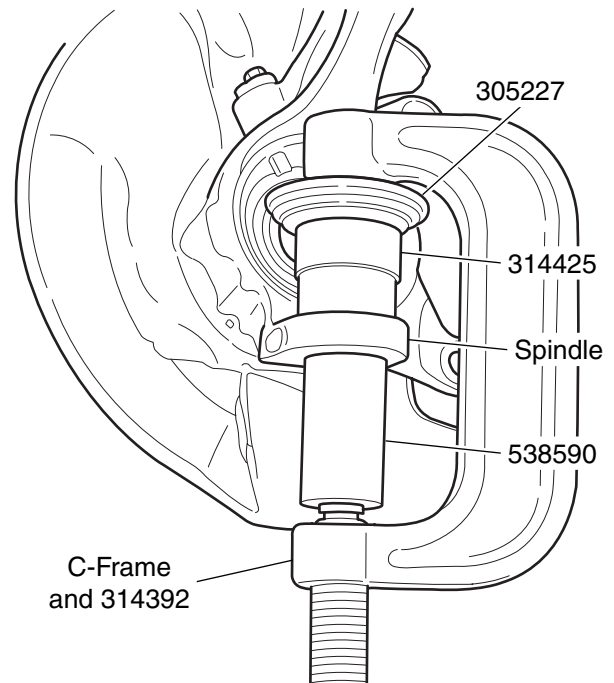

Figure 1. Ball Joint Removal
4. Position 314425, 305227, 314392 and the C-Frame as shown in Figure 1.